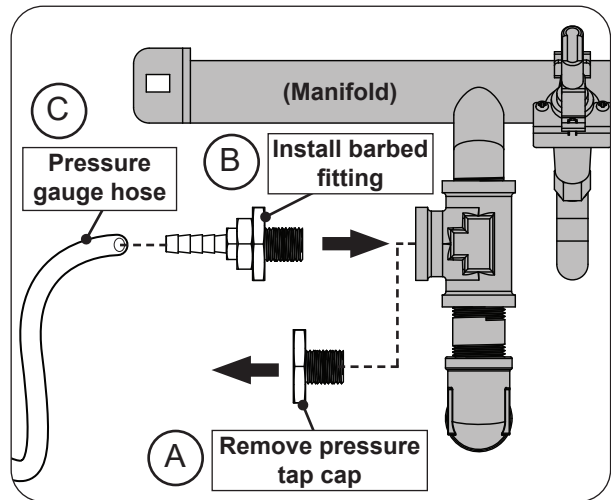

Fig. 26-1 Perform test point pressure test
2. Use a 3/16" hex key to remove the pressure tap cap (see Fig. 26-1, A).
3. Install the included barbed fitting into the pressure tap opening where the cap was removed (see Fig. 26-1, B).
4. Install a pressure gauge hose to the barbed fitting (pressure gauge and hose not included). See Fig. 26-1, C.